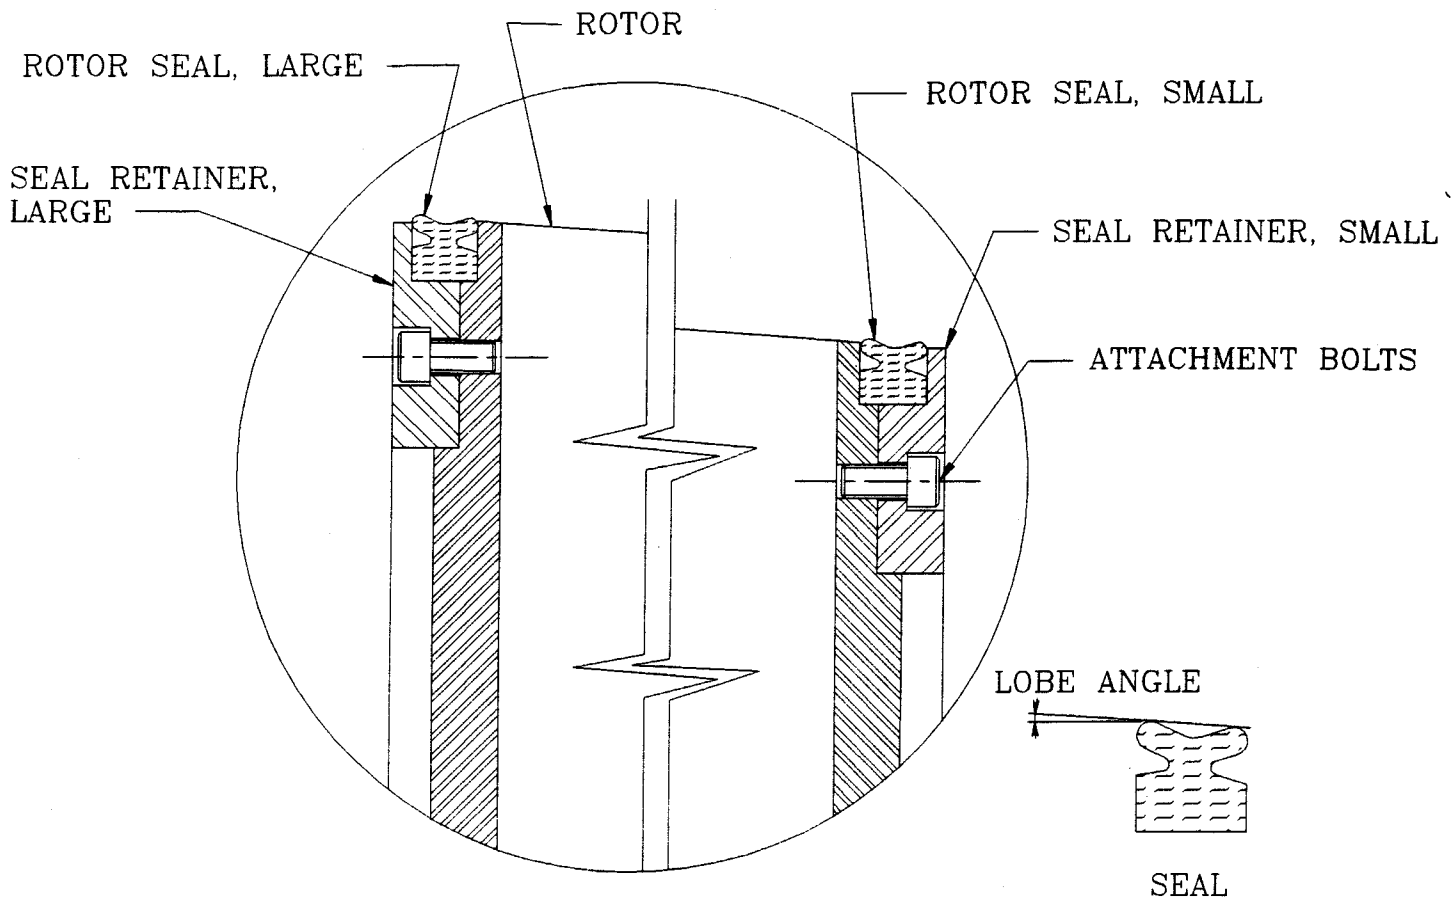

FIG. 3
The purpose of the purge piping is to pressurize the rotor seal and is basically non-consumable in that the purge medium does not pass the seals. From the inlet Tee, pipe in the same medium used for conveying, (air or gas). A pressure regulator must be provided to keep the pressure at two (2) to five (5) psig over the conveying pressure. A cut off valve should be provided so the seals are not under pressure when the valve is out of service. The optional flow indicators are a good way of determining when seal maintenance may be required. Rotation of one or both of the indicators shows that air or gas is passing the seals. See Fig. 3 for seal replacement instructions.